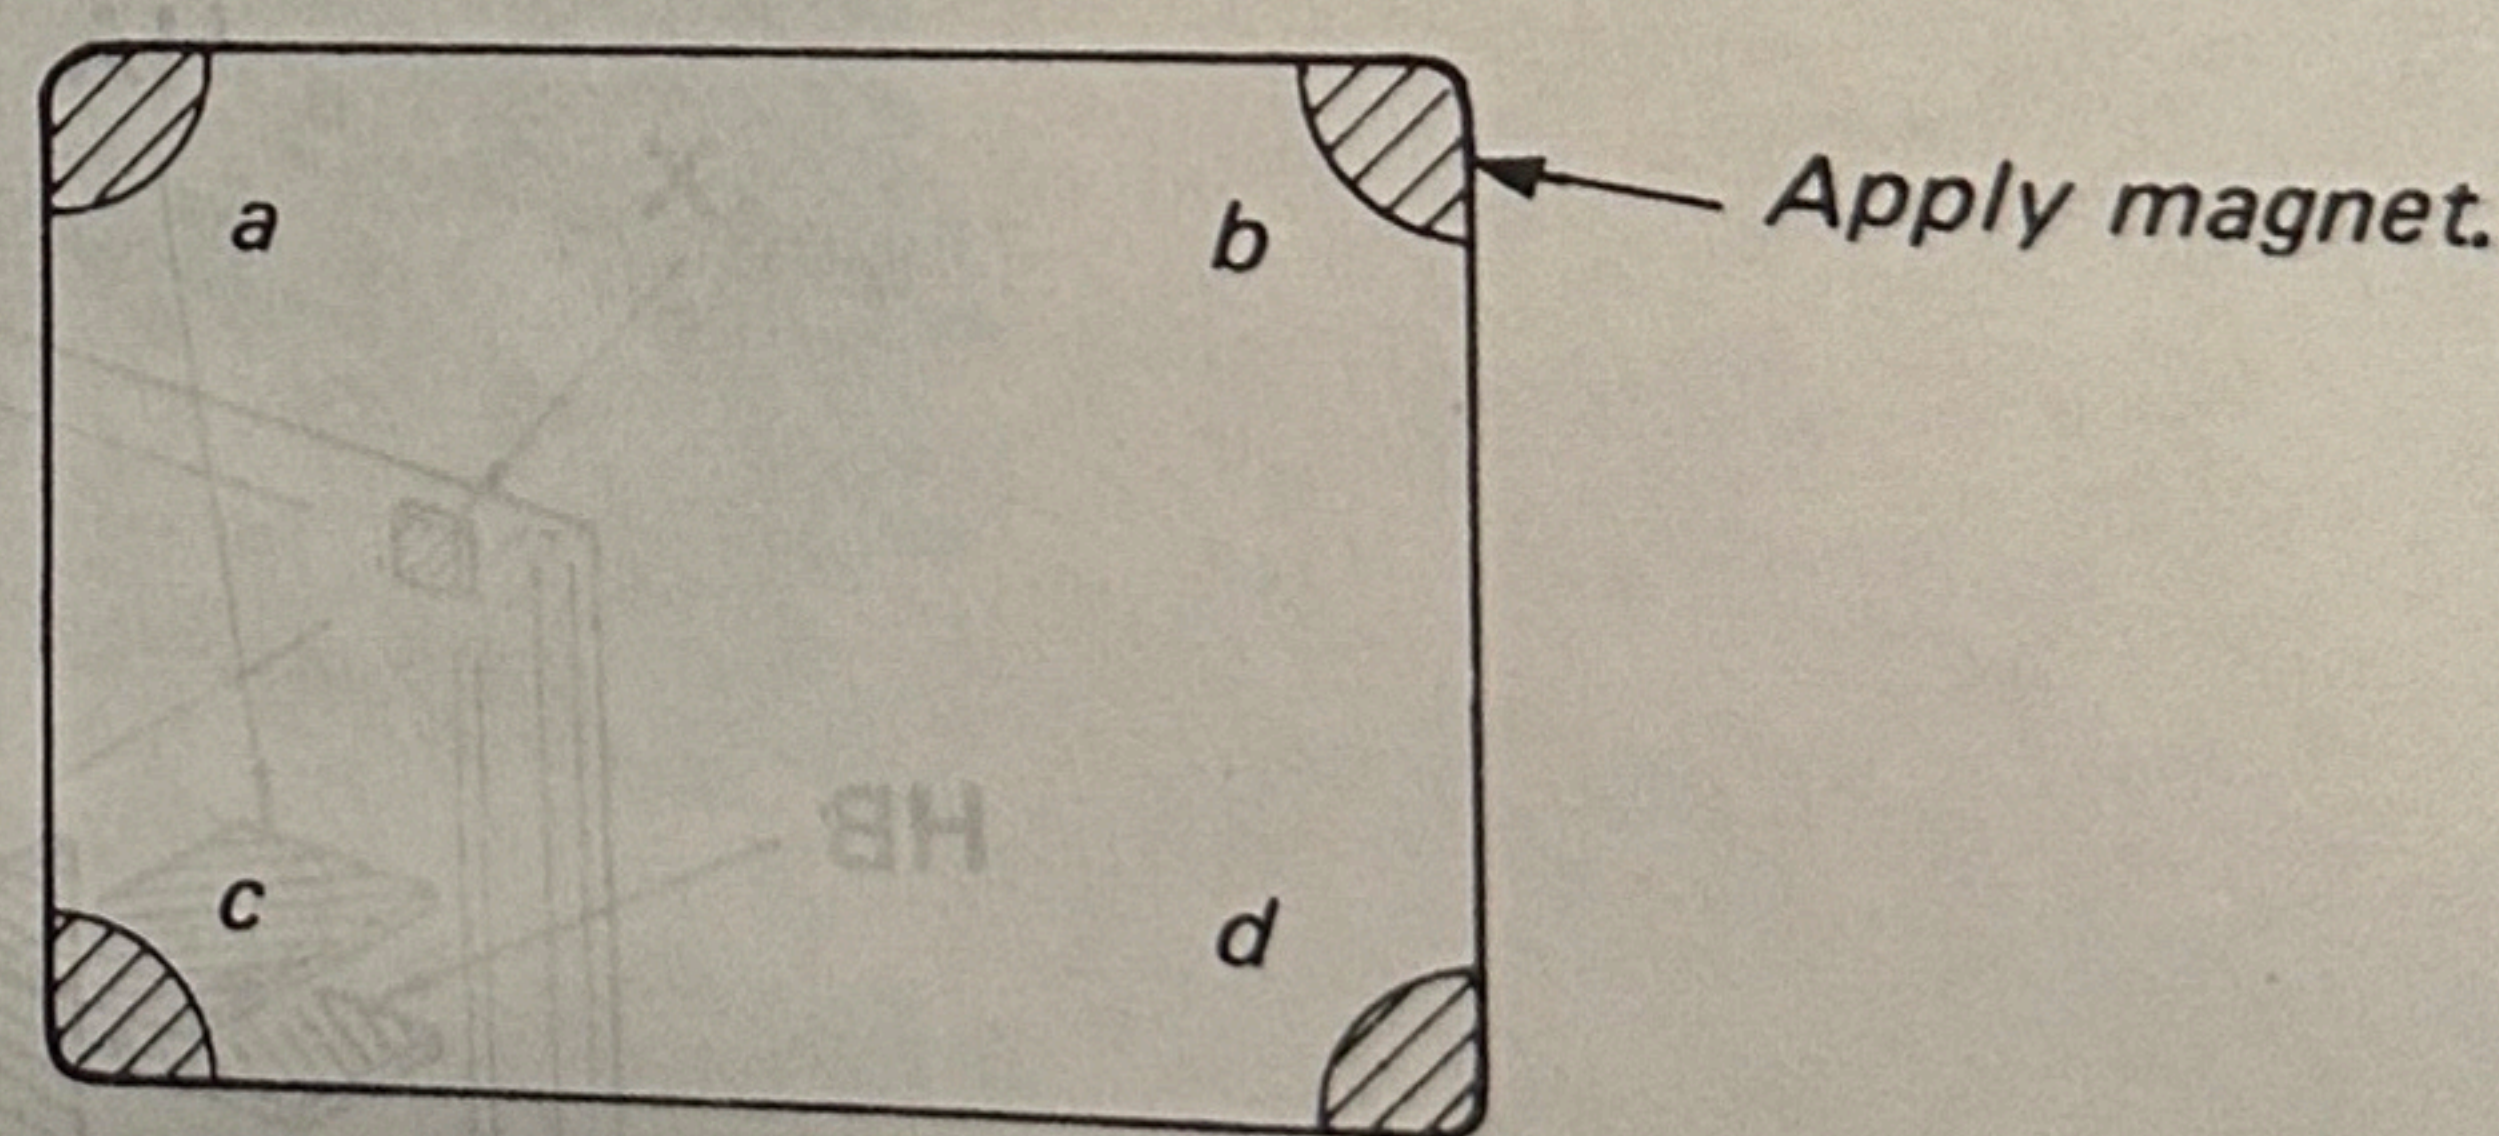

Fig. 4.
1. Affix the magnets from the funnel side on the periphery of the deflection yoke at which the mislanding is observed, as shown in Fig. 4.